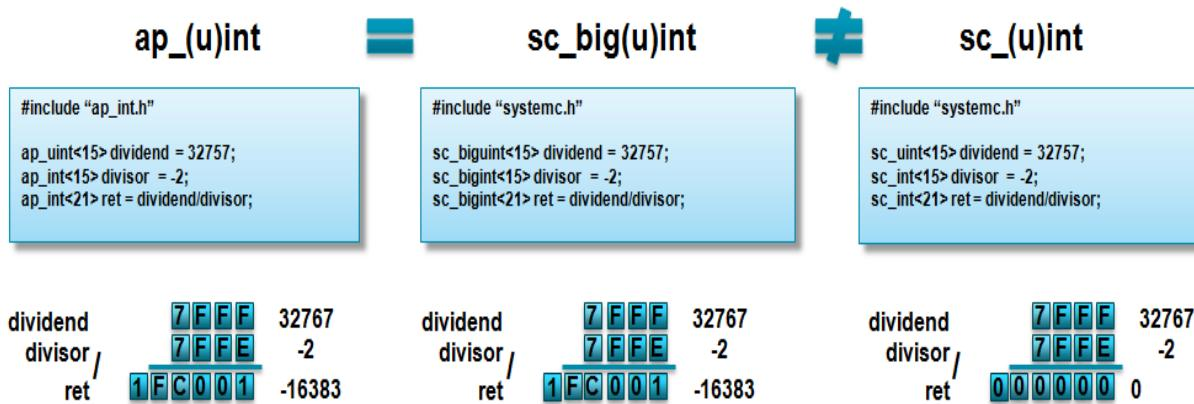

Figure 3-11: Integer Division Differences
- When using integer division, Vivado HLS types are consistent with sc_big[u]int types but behave differently than sc_[u]int types. Figure 3-11 shows an example of this behavior.